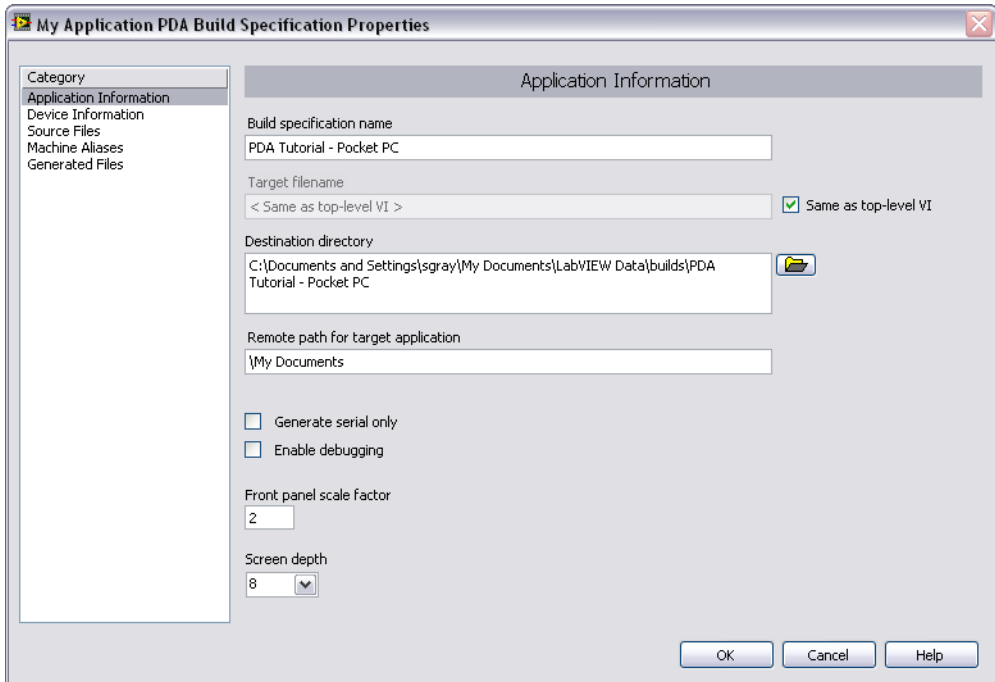

Figure 7. Creating the Build Specification
4. Enter **PDA Tutorial - Pocket PC** in the **Build specification name** text box as shown in Figure 7.